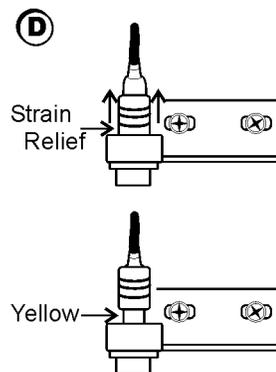

Figure 5-1
5. Remove the electrical connector on the top of the inner door hinge by carefully prying up the black strain relief. Refer to item “D” in the illustration and the drawing in Figure 5-1. The heater wiring connector is of yellow rubber which should be visible when the strain relief is moved upward as shown.